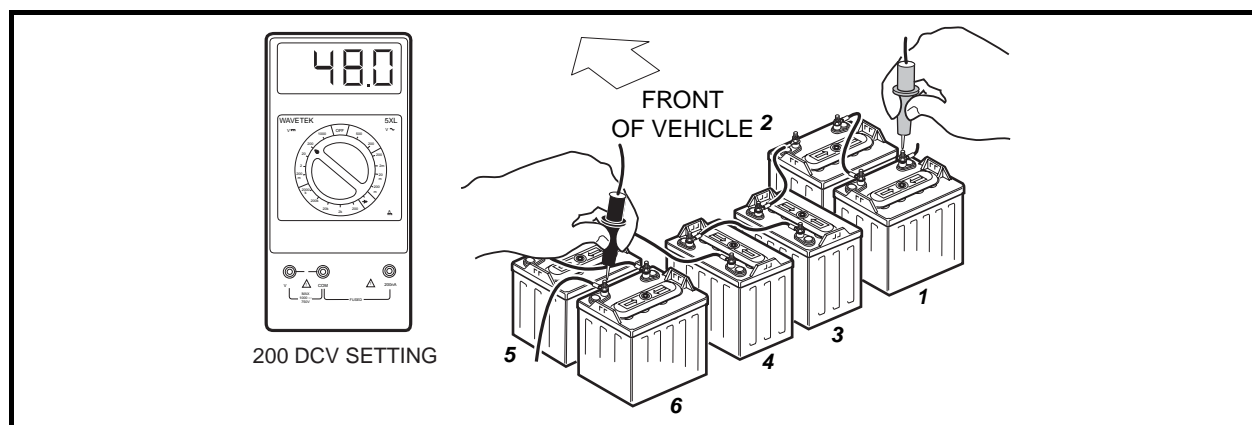

Figure 11-7 Battery Test
1. With batteries connected and using a multimeter set to 200 volts DC, place red (+) probe on the positive (+) post of battery no. 1 and the black (–) probe on the negative (–) post of battery no. 6 (**Figure 11-7, Page 11-17**). The multimeter should indicate at least 48 volts with the batteries fully charged. If not, check for loose battery connections or a battery installed in reverse polarity. Refer to Section 14 – Batteries, for further details on battery testing.